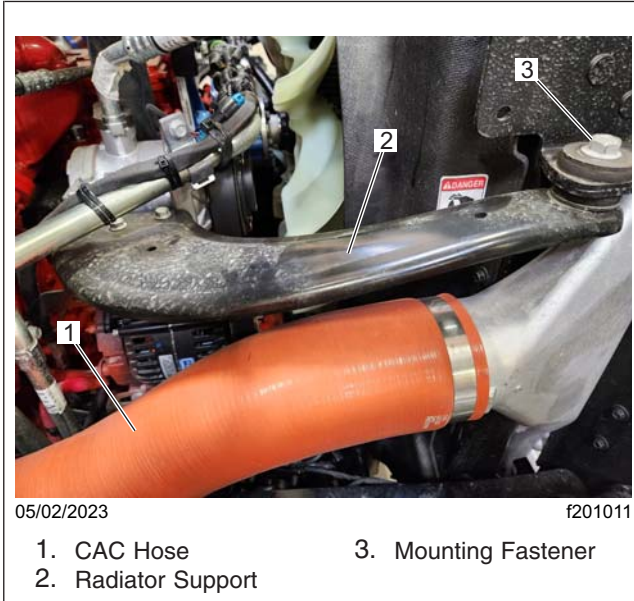

Fig. 9, Radiator Support Location
10. Remove the radiator support fastener. See Fig. 9.